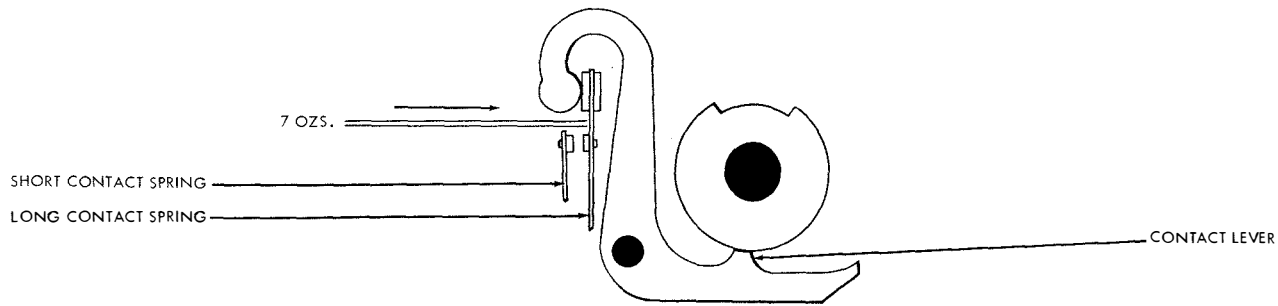

Figure 7-82. Transmitting Contact Spring - Long (Preliminary)
(13) TRANSMITTING CONTACT SPRING PRESSURE (PRELIMINARY). (See figure 7-82.)—When the contact lever is on the high part of its cam (points open), a tension of seven ounces should be required to start the long contact spring moving away from its lever. To check, place the push end of an eight-ounce scale on the long contact spring just above the contact point and note the tension as the spring starts to move. Adjust as follows: